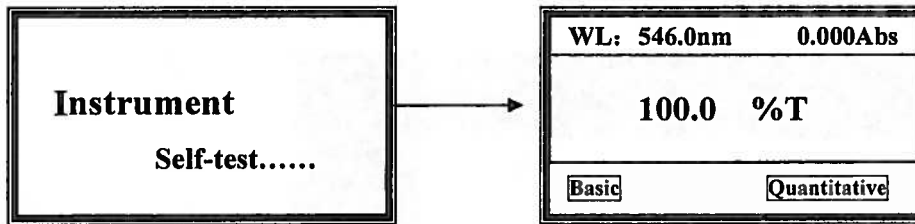

Fig. 1-6 Main menu
- 3) When self-testing ended, it goes into the main menu. (Fig. 1-6)